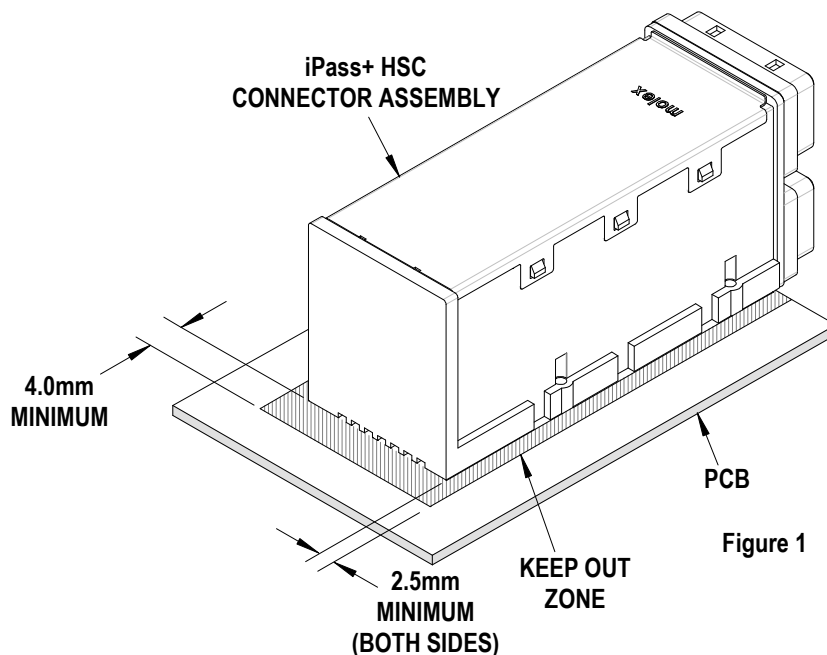

Figure 1
2. These tools require a “Keep Out Zone” around the connector free of components. See Figure 1.